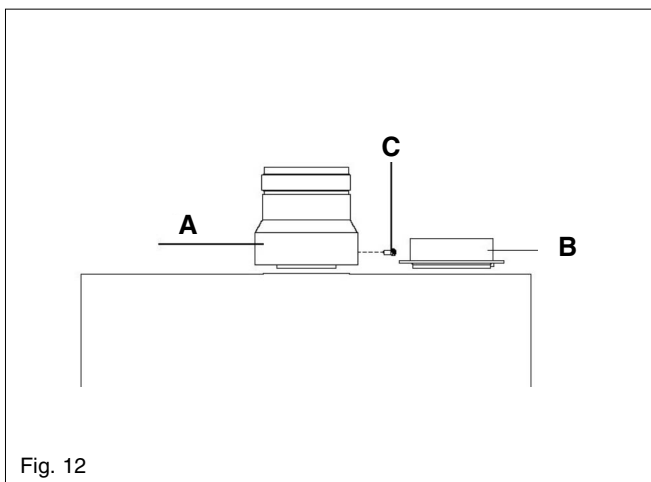

Fig. 12
4.5.3.1 INSTALLATION OF TWIN ADAPTOR KIT (fig. 12 & 13)
- Insert the exhaust connection manifold (A) onto the appliance flue outlet.
- screws – install the air inlet plate (B).
- Using the hole in the exhaust connection manifold as a guide, drill a 3mm hole in the appliance flue spigot and secure the exhaust manifold connection to the flue spigot using the screw provided (C).